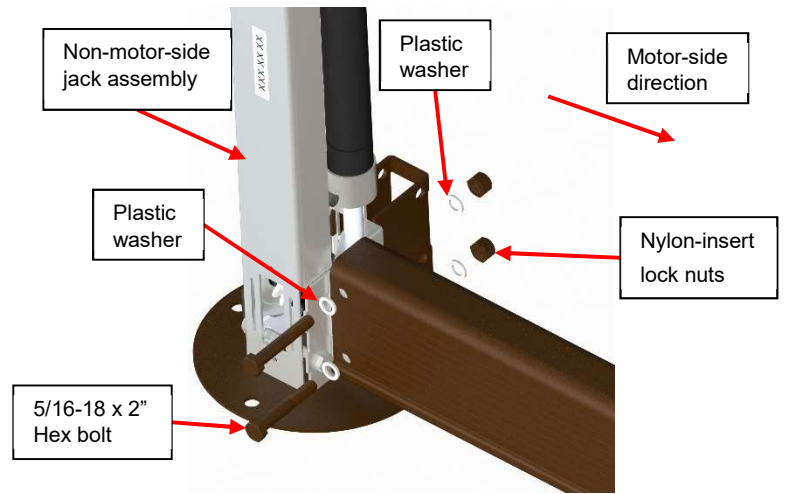

Figure 57
11) Install the long aluminum U-frame over the left driveshaft and ensure it lines up with motor-side and non-motor-side jack assemblies. Fasten it in place using two hexagonal 5/16"-18 x 2" bolts, two 5/16"-18 nylon-insert lock nuts and four 5/16" plastic washers per side. Use the 1/2" (13 mm) socket wrench and spanner as tool. **Do not fully tighten all bolts. The driveshaft may fall off during operation, and the re-assembling can be done faster when the bolts have not been fully tightened.** (Figure 57)